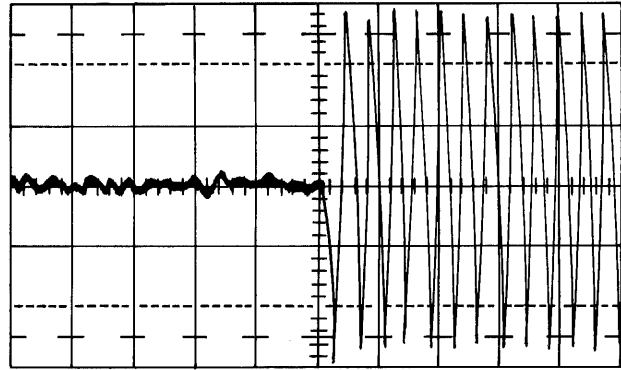

Figure 2-19. Gap Scatter Waveform
- b. Observe that time to data burst is approximately 10 microseconds, and all heads are within 8 microseconds of each other (see Figure 2-19).